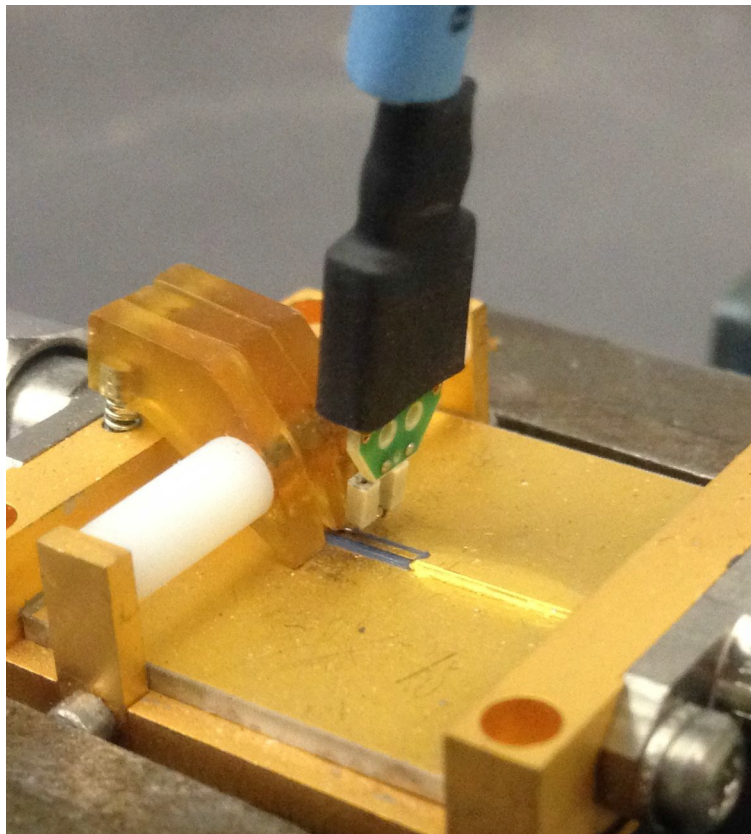

Figure 95 Close-Up of Tip Wires Positioned Under Pincher
- c Depress the actuators on the pincher and carefully insert one wire under the center pincher and the other wire under one of the side pincher. Either polarity of the probe can be tested and will yield the same results (but opposite phase) if the probe is working properly. **Figure 95** on page 122 shows a close up of the tip wires positioned under the pincher.